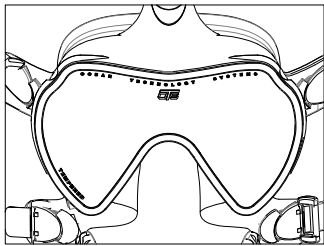

FIGURE 4
1. With protective covers intact, install lens in the groove of the skirt, orienting the OTS logo so it reads left to right when looking at the front of the mask. Ensure the entire perimeter of the lens is seated in the skirt's groove (Fig. 4).